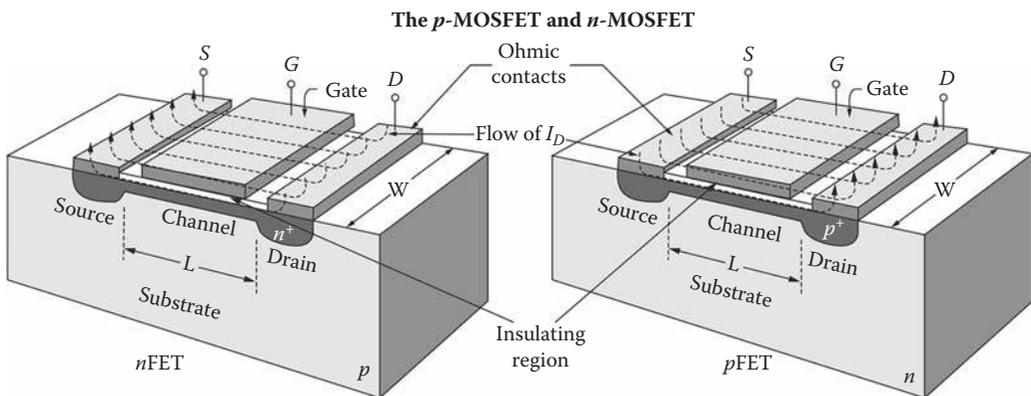

FIGURE 8.24
MOSFET: It is just what it says! sort of. Consider the left-hand drawing in Figure 8.24, which shows an n -channel MOSFET (aka the n FET). The n -channel MOSFET is just the semiconductor (silicon) platform we build the device on (more commonly called the n -body [B] of the transistor), and two n -type regions are introduced (the n -Source [S] and the n -Drain [D]) into the body to form two pn junctions. The source and the drain are spaced a short distance L away from one another, and this distance between source and drain is called the n -gate length. (Recall that the gate length of a MOSFET defines the n -CMOS technology node in semiconductor IC fabrication; for example, a 45 nm CMOS fab.) As we will see, the gate length is everything in the MOSFET world, and to make a good transistor it needs to be a very, very small number. The n -gate width (W) is just the width of the n -S/D regions in the direction opposite to the gate length. The n -channel region lies inside the semiconductor and between the n -S/D junctions, and this is where all of the transistor action occurs. On top of the surface of the channel we grow a thin oxide layer (SiO_2), the n -gate oxide, and then our conductive third control terminal, very heavily doped n -type polysilicon, in MOSFETs known as the n -gate (G) terminal (it n -gates the current flow from source to drain).^{*} Note that since the gate oxide is insulating, negligible current flows into the gate. Instead, it influences the channel region capacitively, by indirectly applying an electric field; this is the fundamental difference between FETs (e.g., MOSFETs) and PETs (e.g., BJTs). Just as with the BJT, we can construct the same type of device by simply swapping the doping polarities of all of the doped regions (refer to Figure 8.24), yielding a p -channel MOSFET (aka the p FET). One can easily tell which is which: The n FET has n -type source-drain-gate
Now THIS is useful. Consider. Look back to Figure 8.24 to guide your thinking and imagine morphing this n MOS capacitor into the guts of that n MOSFET by simply adding n^+ source and drain regions on either end of the channel. Ground the body and ground the source, and then put a positive voltage on the drain. Good. Now, if the gate voltage stays grounded, absolutely nothing happens. Open circuit between source and drain. BUT, if we now bias the gate to a positive voltage large enough to invert the surface of the n MOS capacitor, we now have an n^+ source, an n^+ drain, and, importantly, an induced n -type inversion region in the channel. What do you call an object built from an n^+ (source)- n (channel)- n^+ (drain)? Give up? A fancy resistor! What happens when you apply a voltage across a resistor? Electron current flows from source to drain (I_{DS})! Said another way, I have made a wonderful binary switch. If the gate voltage is at ground, I have an open circuit, no current flow; but if the gate voltage is large enough to invert the surface, I have a closed circuit, and current flows. On/off; on/off. A switch! Excellent. Not only this, but because there is no gate current flow ($I_G = \text{tiny}$; near zero, in fact), the current gain (I_D/I_G) associated with the n FET is HUGE! Moral: We don't just have any ole switch, we have a regenerative switch! Microprocessors here we come!
If we plot the log of I_{DS} as a function of linear V_{GS} , for fixed V_{DS} , we will obtain Figure 8.30. This is called the “subthreshold” characteristics of the MOSFET, because it shows the current flow below V_T (clearly the MOSFET is not entirely “off” when $V_{GS} < V_T$). There is something particularly intriguing about this plot. Do you see it? Give up? I am plotting log output current on linear input voltage and getting a straight-line behavior at low values of V_{GS} . Conclusion: I_{DS} depends exponentially on V_{GS} in this subthreshold regime. Careful: This result has MAJOR implications for CMOS scaling limits (more on this in a Chapter 13). Here is a head-scratcher for your consideration. WHY does output current depend exponentially on input voltage in subthreshold in a MOSFET? Fine to cry “UNCLE” if so inclined! Fine. Look back to Figure 8.24, which shows the cross-section of the MOSFET. Imagine that we are biased at $V_{GS} < V_T$ and hence no channel inversion region is formed. What do